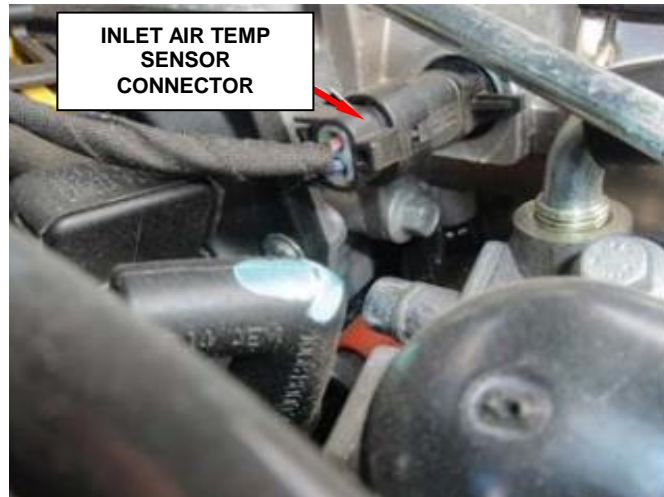

Figure 23 – Inlet Air Temp Sensor
33. Disconnect the inlet air temperature sensor wire harness connector (Figure 23).
13. Connect the inlet air temperature sensor wire harness connector (Figure 23).